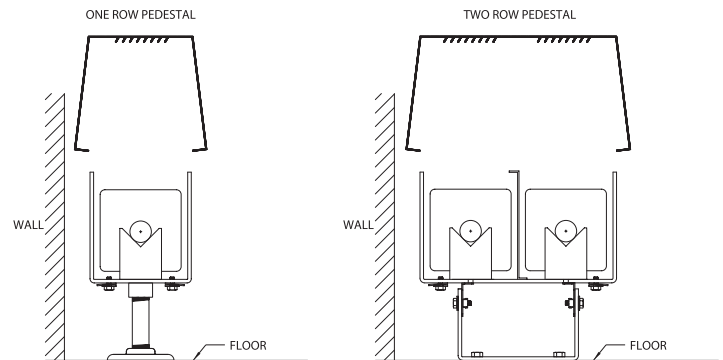

FIGURE P-4
- (4) Install the enclosure over the pedestal bracket. (FIGURE P-4)